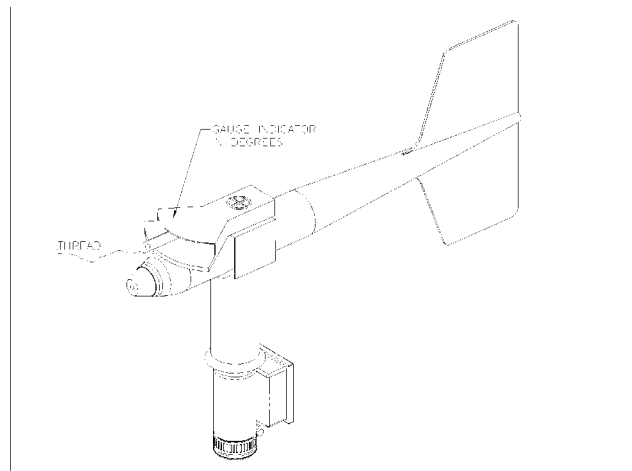

Figure 1-29. Wine Vane – Vane Angle Torque Gauge
- k. Snap Vane Torque Gauge onto Wind Monitor body such that gauge is level and crosshairs on gauge are directly above mounting post (See Figure 1-29).